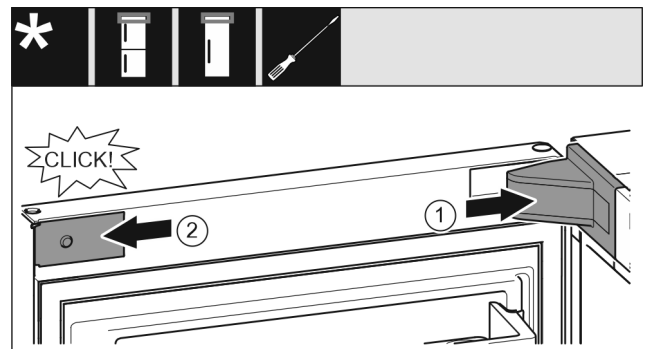

Fig. 18
- ▶ Position the bearing bracket cover and engage it. If necessary push it apart carefully. Fig. 18 (1)
- ▶ Position the panel on the side and latch into place. Fig. 18 (2)